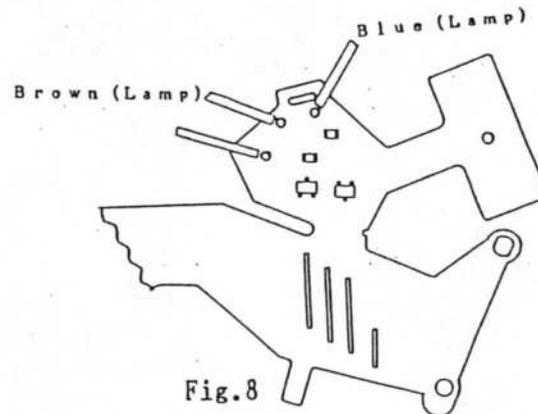

Fig.8
- (1) Take off two SCREWS (No.1) and remove the EYEPIECE FRAME (No.2)
8. AE FPC (Fig.8,9,10,11)
- (1) Detach the soldered portion of two LEAD WIRES (Brown, Blue) from the AE FPC. (Fig.8)